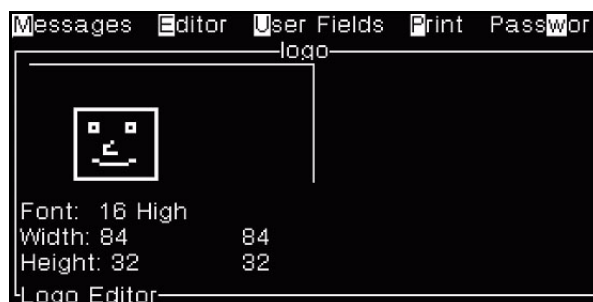

Figure 5-64: Crop Logo
- 1 Press the *Enter* key and a frame appears that shows the current boundaries of the graphic (see Figure 5-64).